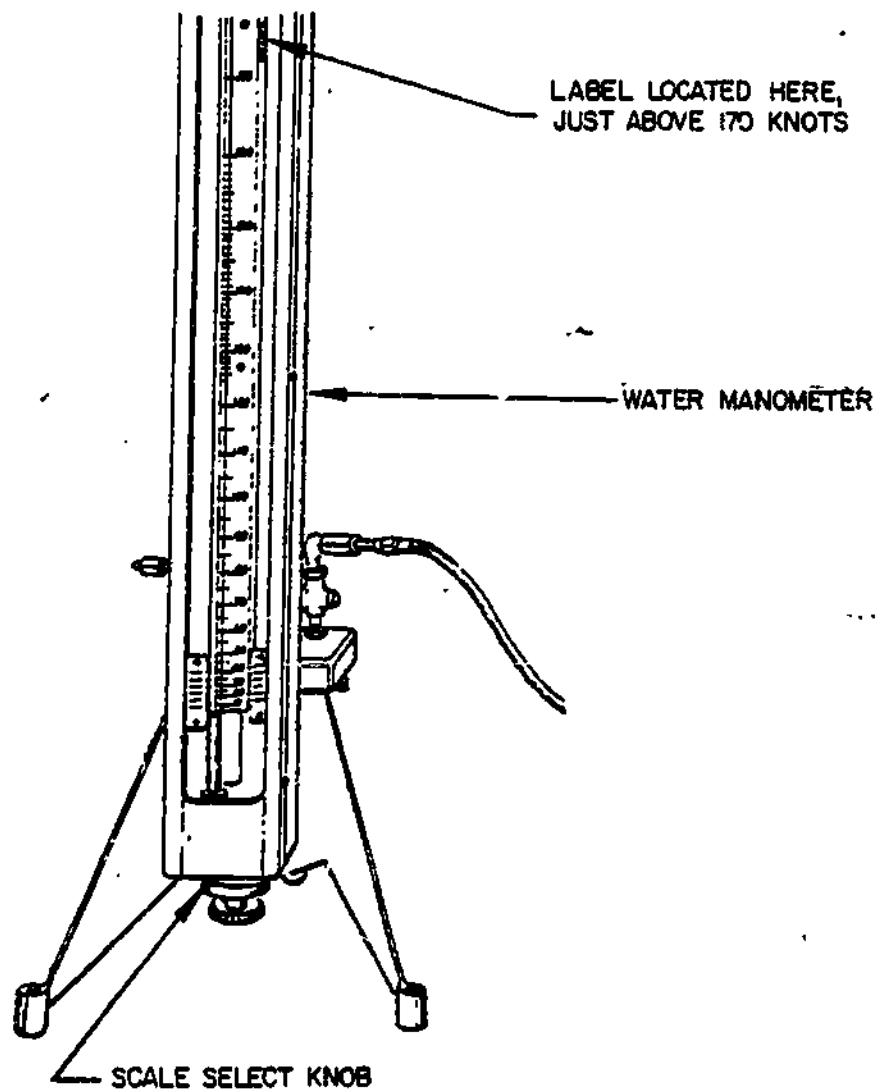

Figure 2.
b. Look at the water manometer located to the left of the vacuum chamber. Rotate the scale select knob (large knob, figure 2) until the scale labeled "using water read knots" is in view. The label will be found along the right hand edge of the scale, see figure 2.